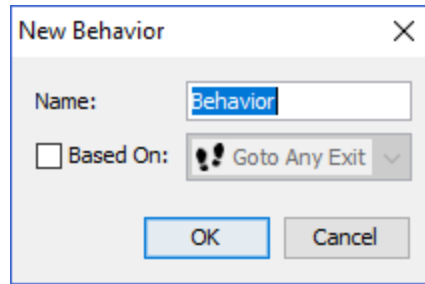

Figure 97. New Behavior dialog
1. Right click the **Behaviors** node from the Navigation View, and from the right-click menu, click **Add a Behavior**, which will open the New Behavior dialog shown in Figure 97.